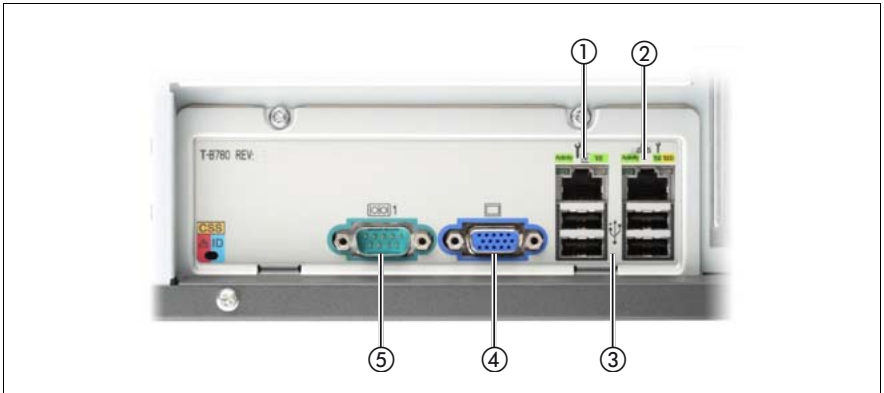

Figure 9: Connector panel on the rear side
- ▶ Connect the monitor to the video connector of the server (see figure 9 on page 59).